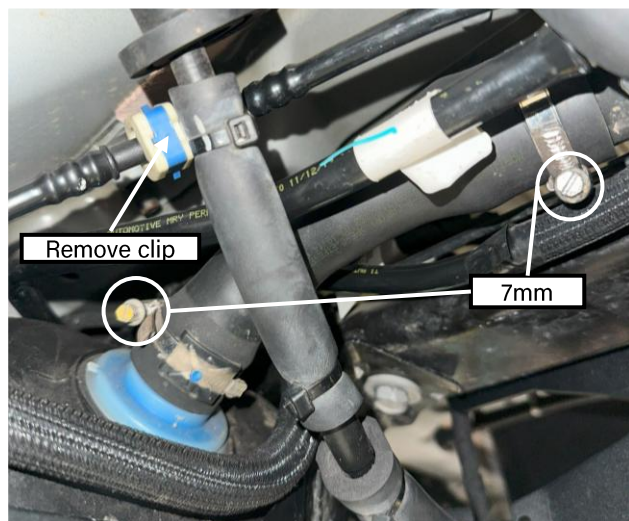

Figure 17: Gas filler neck to be loosened
- ❑ Loosen the filler neck clamp and slip it off the tube (Figure 17) using a 7mm socket or wrench